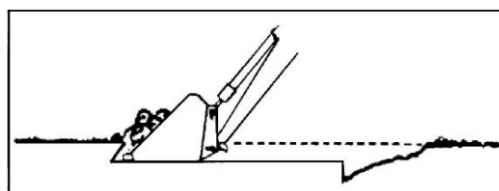

Fig 4.14.Peeling and scraping.
- Use a slight bucket angle, travel forward, and hold the lift ontrol forward to start the cut. Make a short, angle cut approximately 6" deep and break out cleanly shown in figure 4.14.